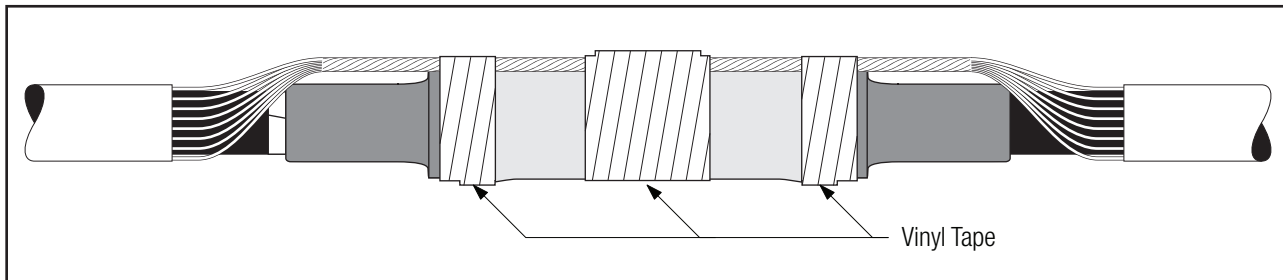

Figure 18
- 5.1.2 Apply two wraps of vinyl tape around each end of the neutral pad and over the connector (Figure 18).